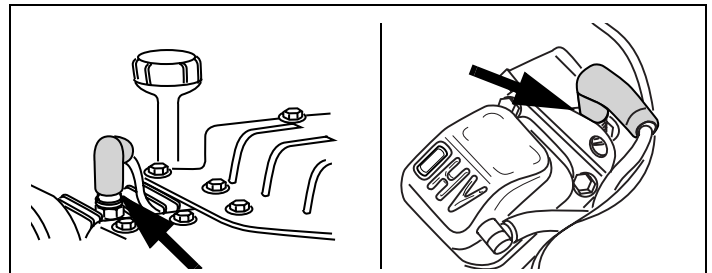

Figure 54. Typical Spark Plug Connection
10. Connect spark plug wire to spark plug. See Figure 54.